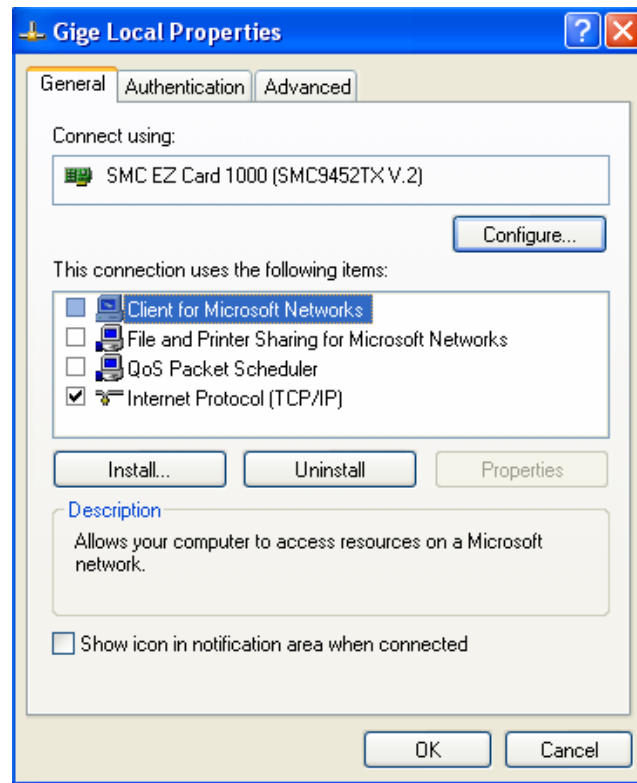

Figure 9. Network card main properties window.
- Open the Network Connections Dialog as follows: From the Windows desktop select **start**, then select **Control Panel**, then double click on the **Network Connections** icon. Double click the relevant network card listed or right-click the relevant network card and select **Properties**. This will open the properties window for your network card. See Figure 9.
- From the main properties dialog as in Figure 9, make sure that only the **Internet Protocol (TCP/IP)** check box is selected then click **OK**. The card is now optimized for use with the Prosilica camera.